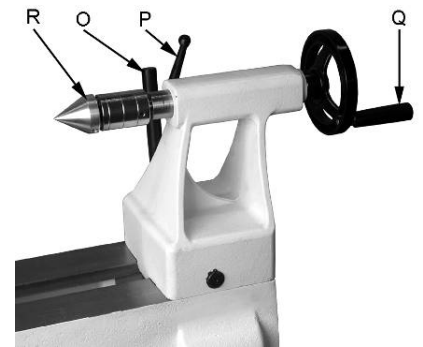

Fig 20
Turn the hand wheel (Q, Fig 20) clockwise to move tailstock spindle forward. Lock tailstock spindle with the indexable knob (P).